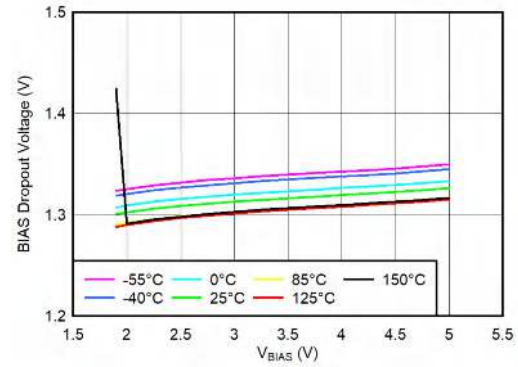

Figure 6-29.  $V_{IN}$  Dropout Voltage vs ( $V_{BIAS} - V_{OUT}$ ) and Temperature ( $T_J$ )
- (1) Adjustable devices tested at 0.8 V; resistor tolerance is not taken into account.
- (2) Dropout is defined as the voltage from  $V_{IN}$  to  $V_{OUT}$  when  $V_{OUT}$  is 3% below nominal.
- (3) 3.25 V is a test condition of this device and can be adjusted by referring to Figure 6-29.